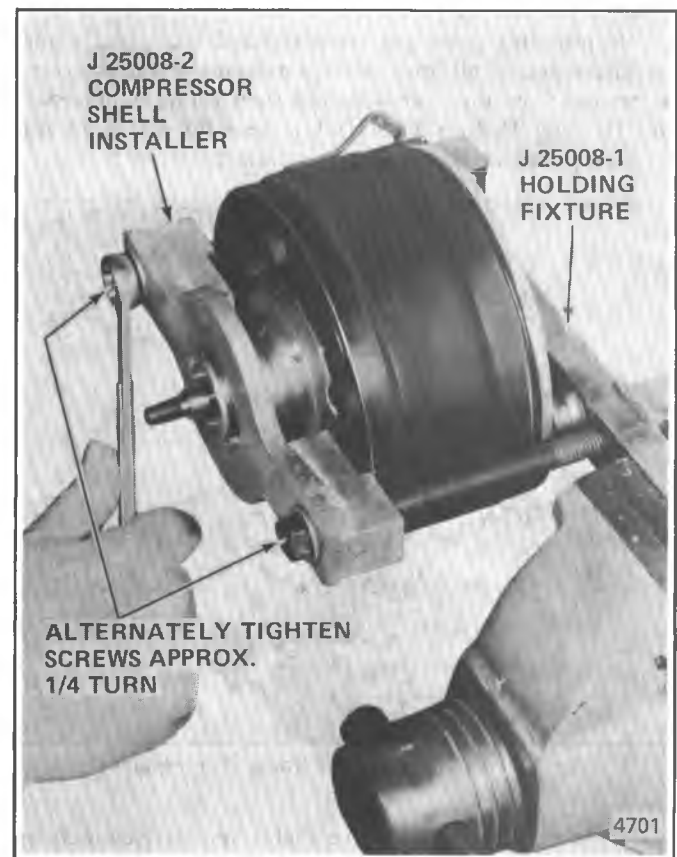

Fig. 1D-102 Installing R-4 Shell
6. Push the compressor shell as close to the O-ring, Fig. 1D-102, as possible by hand and check for equal alignment of the shell around the cylinder. Tighten the Fixture screws finger tight.